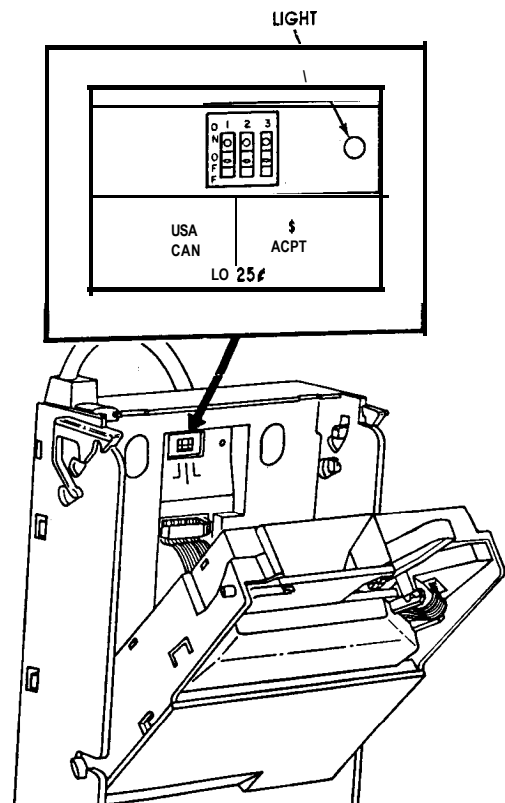

Figure 4
2. Remove the coin acceptor (upper section) portion of the coin mechanism. See Figure 4.